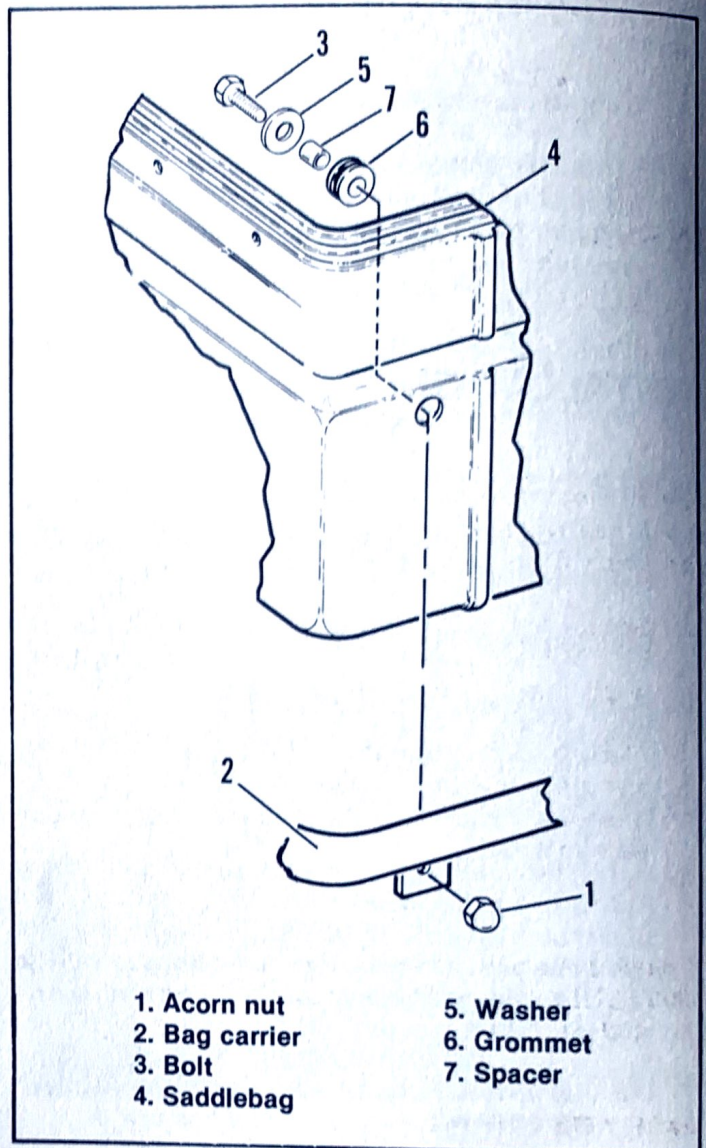

Figure 2-8. Saddlebag Mounting
## REMOVAL (Figure 2-8)
2. See Figure 2-8. Place a flat washer (5) on each bolt (3) and insert each bolt through a spacer (7), grommet (6) and the mating hole in the bag carrier (2). Turn an acorn nut (1) onto each bolt (3) and tighten securely.